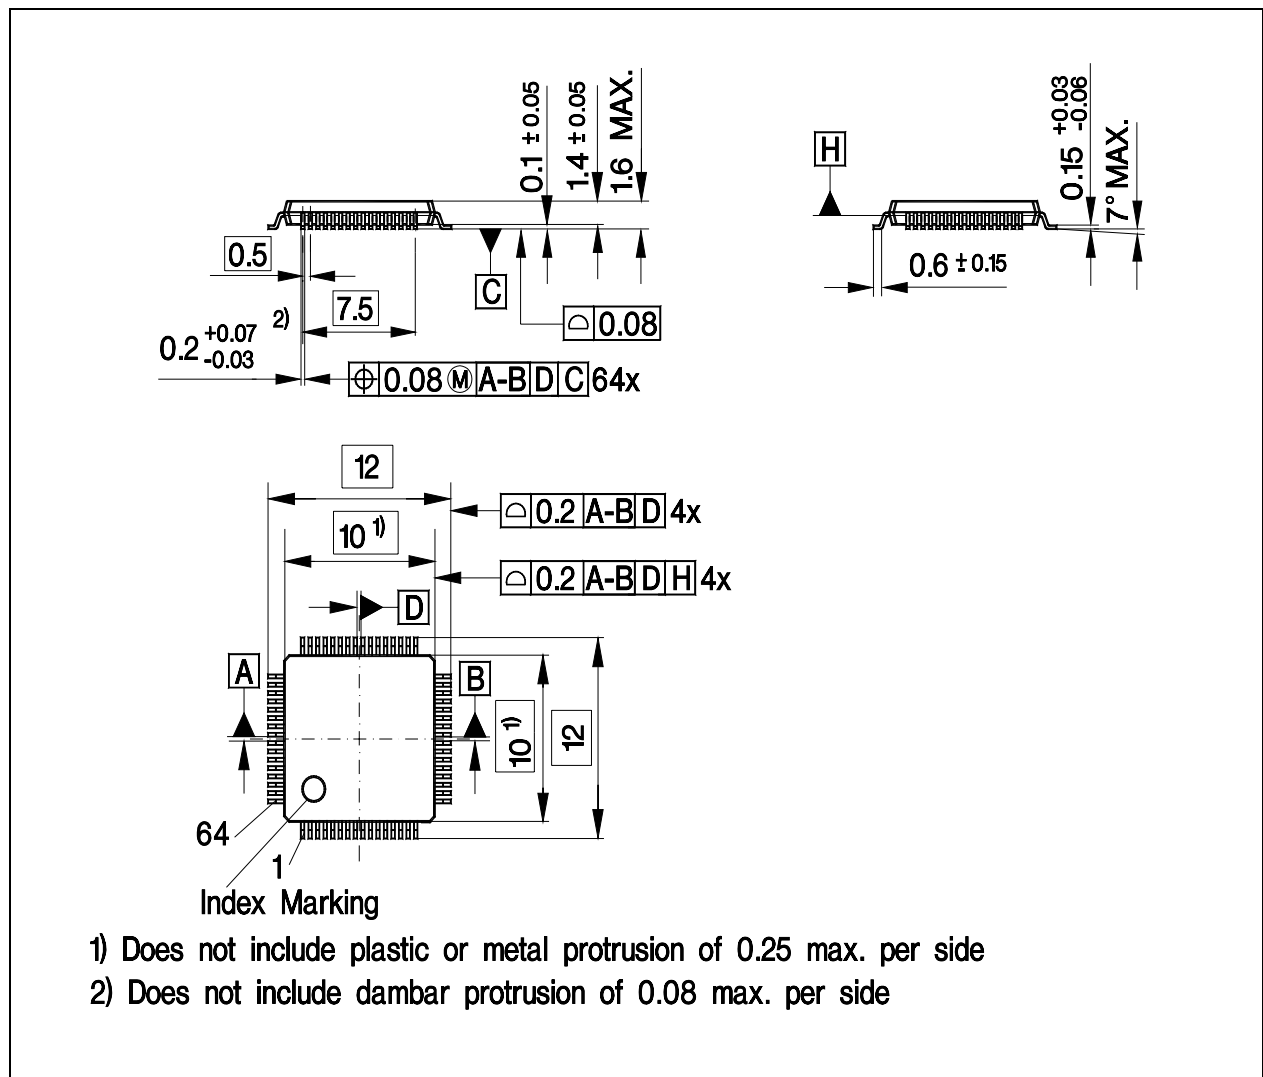

**Figure 49 PG-TQFP-64 Package Outline**
**Figure 49** shows the package outlines of the XC888.